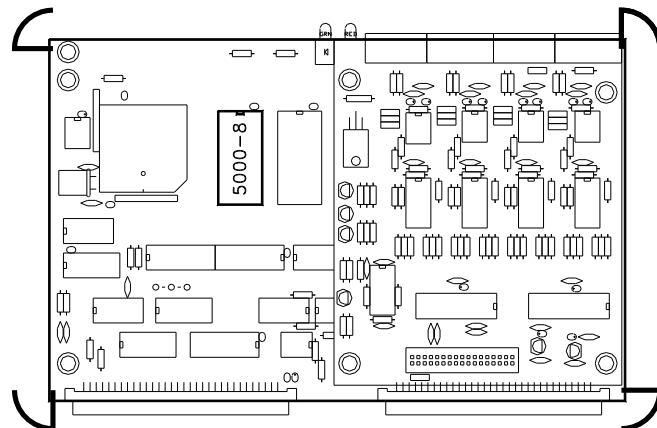

Figure A.10: OmniLink Tonnage Monitor Module Circuit Board
- ◆ Using Figure A.10, locate and remove the 5000-8 chip.